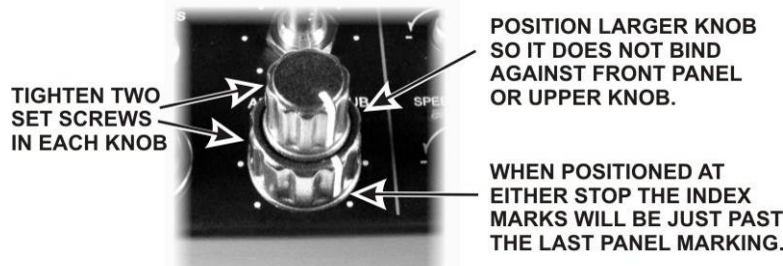

Figure 18. Mounting Concentric Knobs.
- Place the larger of a pair of concentric knobs over the RF/SQL - SUB control as follows (See Figure 18):
- Place the smaller knob over the shaft, align its index line as shown in Figure 18 and tighten one set screw with a 0.050" Allen wrench.